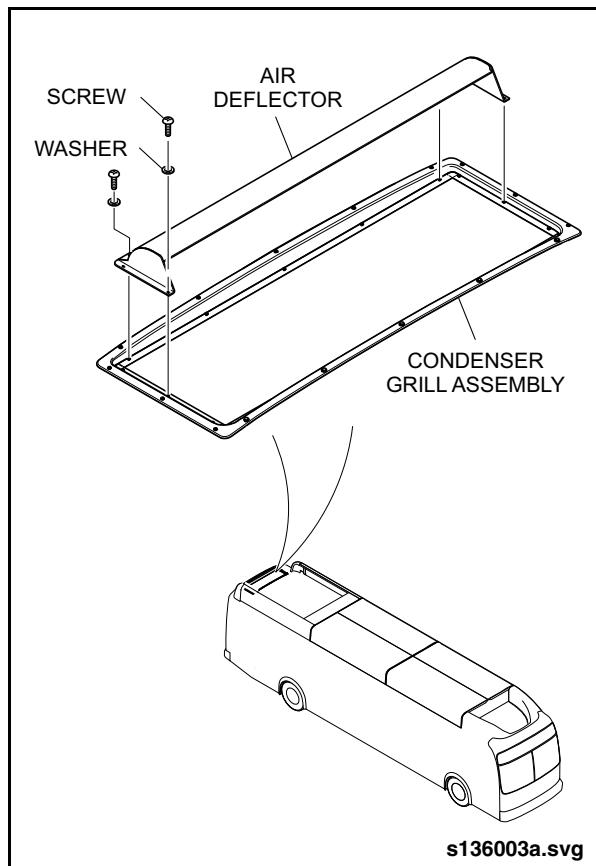

Fig. 10-6: Condenser Grill Assembly
12. Move to the rooftop of the vehicle and remove the fasteners that attach the condenser grill frame and air deflector (if equipped) to the vehicle rooftop. See "Fig. 10-6: Condenser Grill Assembly" on page 19.